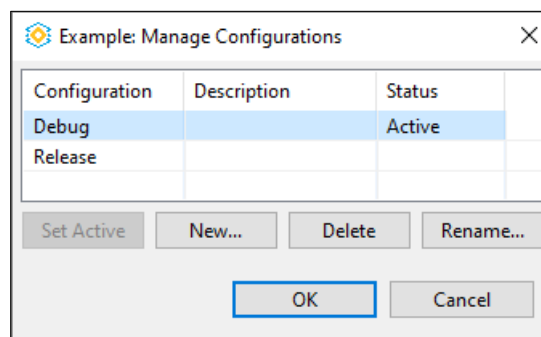

Figure 3.29. Manage Configurations Dialog
- b. The **Manage Configurations** dialog opens (Figure 3.29) for choosing active configuration. By default, a **Debug** configuration creates executables containing additional debug information that lets the debugger make direct associations between the source code and the binary files generated from the original source. A **Release** configuration provides the tools with options setting to create an application with the best performance.